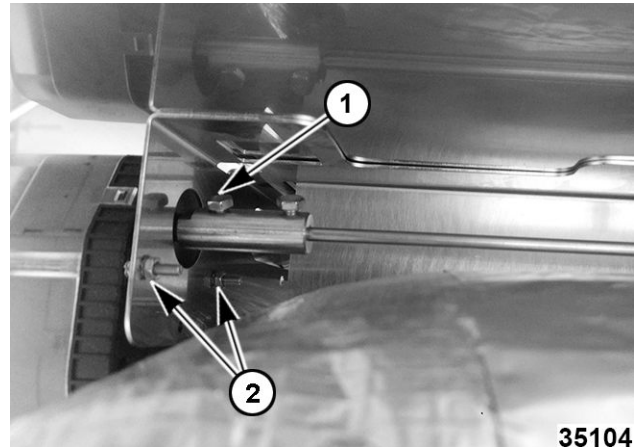

Fig. 51
3. Loosen motor shaft bolt (1, Fig. 51).
4. Remove both mounting nuts (2, Fig. 51).